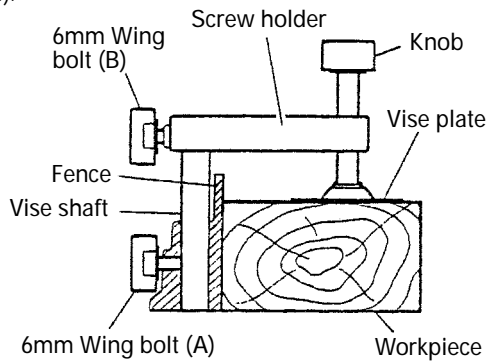

Fig. 20
- (1) The vise assembly can be mounted on either the left fence (Fence (B)) or the right fence (Fence (A)) by loosening the 6mm wing bolt (A).
- (2) The screw holder can be raised or lowered according to the height of the workpiece by loosening the 6mm wing bolt (B). After the adjustment, firmly tighten the 6mm wing bolt (B) and fix the screw holder.
- (3) Turn the upper knob and securely fix the workpiece in position (Fig. 20).